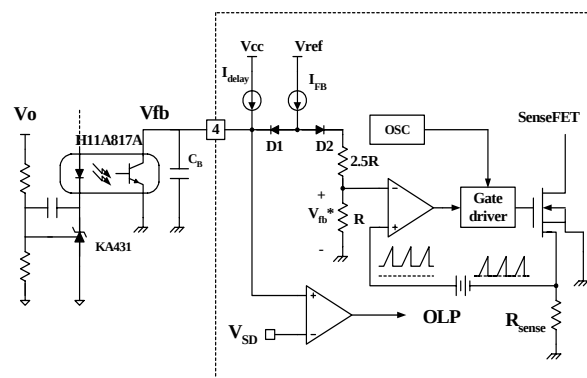

Figure 5. Pulse width modulation (PWM) circuit
2. Feedback Control : FSDM0565RB employs current mode control, as shown in Figure 5. An opto-coupler (such as the H11A817A) and shunt regulator (such as the KA431) are typically used to implement the feedback network. Comparing the feedback voltage with the voltage across the Rsense resistor plus an offset voltage makes it possible to control the switching duty cycle. When the reference pin voltage of the KA431 exceeds the internal reference voltage of 2.5V, the H11A817A LED current increases, thus pulling down the feedback voltage and reducing the duty cycle. This event typically happens when the input voltage is increased or the output load is decreased.
2.1 Pulse-by-pulse current limit: Because current mode control is employed, the peak current through the Sense FET is limited by the inverting input of PWM comparator (V_{fb}^*) as shown in Figure 5. Assuming that the 0.9mA current source flows only through the internal resistor ($2.5R + R = 2.8\text{ k}\Omega$), the cathode voltage of diode D2 is about 2.5V. Since D1 is blocked when the feedback voltage (V_{fb}) exceeds 2.5V, the maximum voltage of the cathode of D2 is clamped at this voltage, thus clamping V_{fb}^* . Therefore, the peak value of the current through the Sense FET is limited.